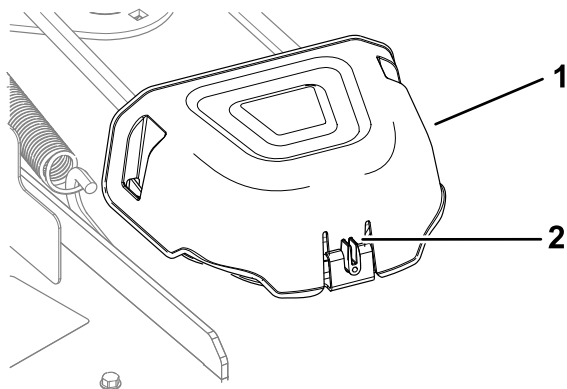

Figure 49
4. Push in the tab on the cover to remove the pulley covers (Figure 49).